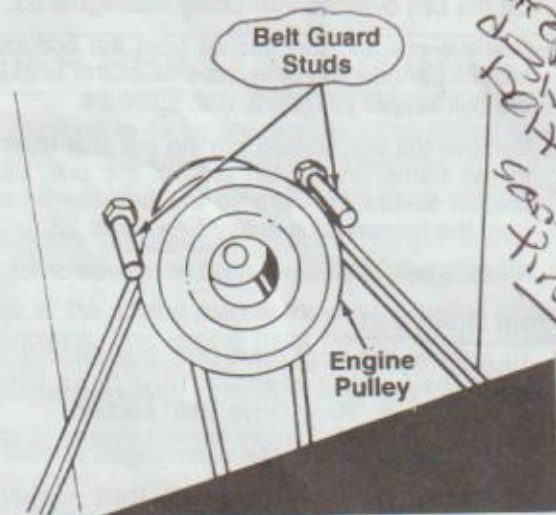

FIGURE 20
2. Remove the belt guard studs (belt keepers) from the frame. See figure 20.
NOTE: Your unit will have either two or three studs. When reassembling, make certain studs are assembled in the same locations from which they were removed. See figure 20.
NOTE: Figure 20 is shown with the unit tipped up for clarity. It is not necessary to tip the unit to remove the belts.
3. Remove the belt guard studs (belt keepers) from sides of engine pulley. See figure 20.
NOTE: Make certain studs are reassembled as shown in figure 20.